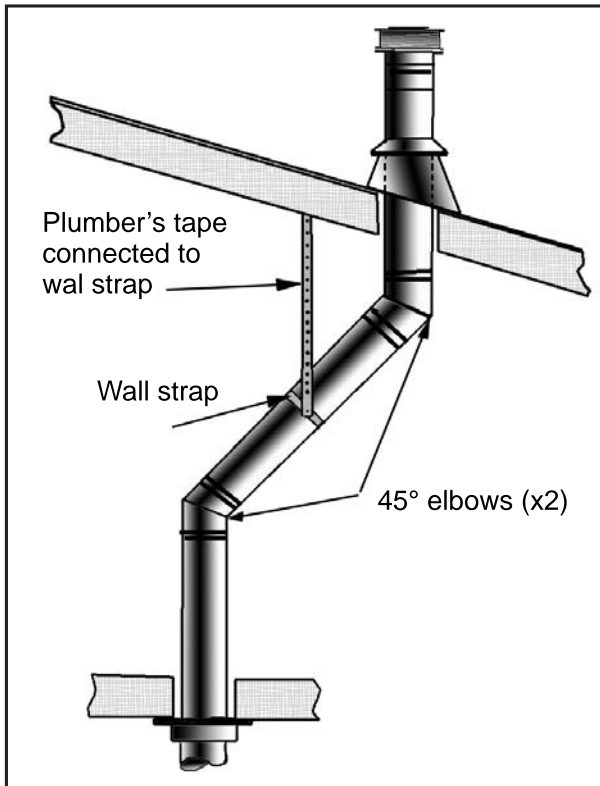
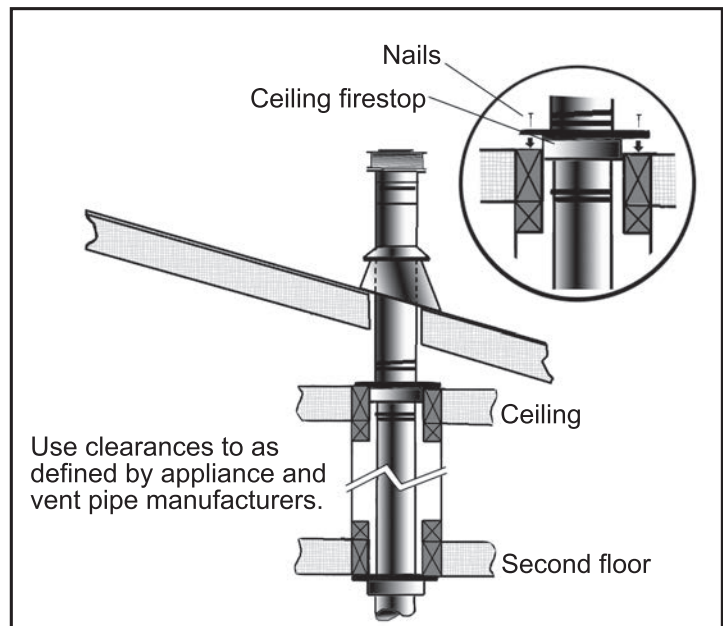

Figure 48: Use of Wall Straps.
Figure 49: Multi-Story Vent Pipe Installation
- (1) If an offset is necessary in the attic to avoid obstructions, it is important to support the vent pipe every **3' (914 mm)**, to avoid excessive stress on the elbows, and possible separation. Wall straps are available for this purpose (see Figure 48).
- (2) When ever possible, use 45° degree elbows instead of 90° degree elbows. The 45° degree elbow offers less restriction to the flow of flue gases and intake air.
- (3) For multi story installations; a ceiling firestop is required at the second floor, and any subsequent floors (see Figure 29). The opening should be framed to **10" (254 mm) x 10" (254 mm)** inside dimensions, in the same manner as shown in Figure 49.
- (4) Any occupied areas above the first floor, including closets and storage spaces, which the vertical vent passes through, must be enclosed. The enclosure may be framed and sheet-rocked with standard building materials. However consult the appliance manufactures installation instructions for the minimum allowable clearance between the outside of the vent pipe, and the combustible surfaces of the enclosure. Do not fill any required air spaces with insulation.